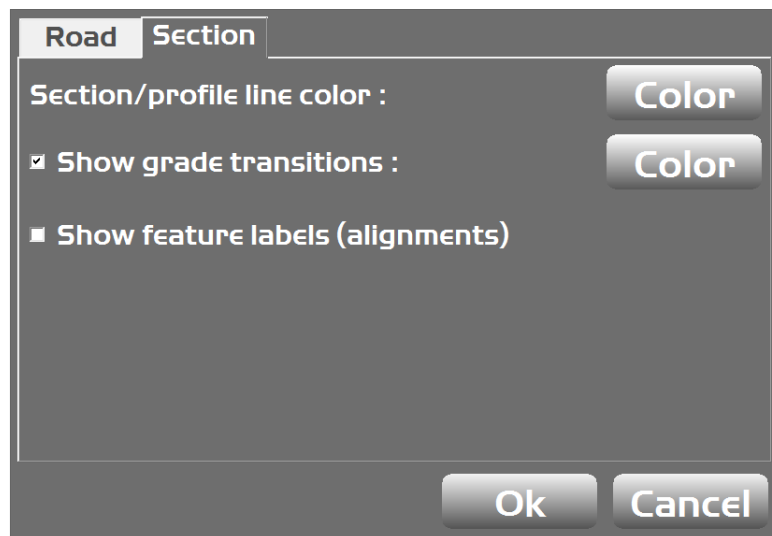

Figure 104: Select a Color for the Section Parameters
5. Tap the **Color** button to change the **Section/profile line color** and/or **Show grade transitions** (Figure 104).